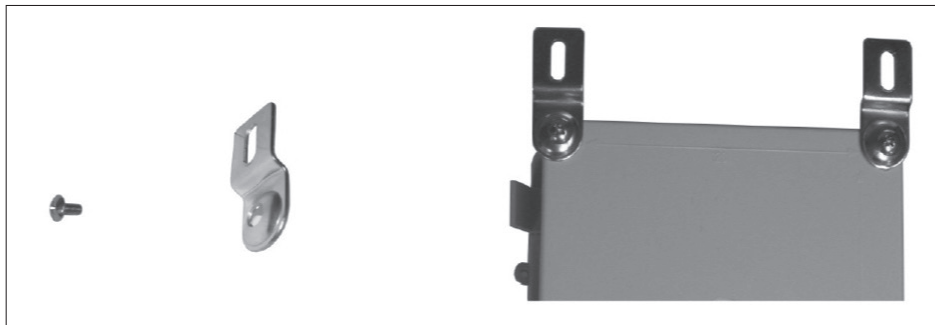

Figure 4 - Mounting the Enclosure
1. For outdoor enclosures, attach the mounting brackets to the back of the enclosure with the four provided screws, as shown in Figure 4.